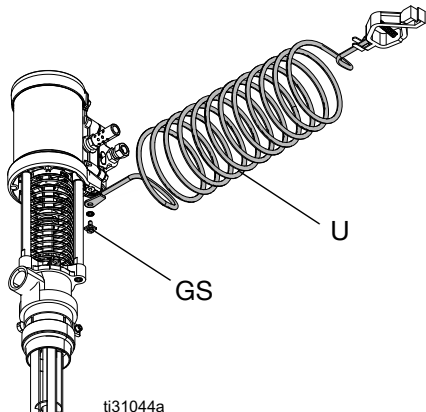

FIG. 4: Ground Wire
See FIG. 4. Verify that the ground screw (GS) is attached and tightened securely to the air motor. Connect the other end of the ground wire (U) to a true earth ground.